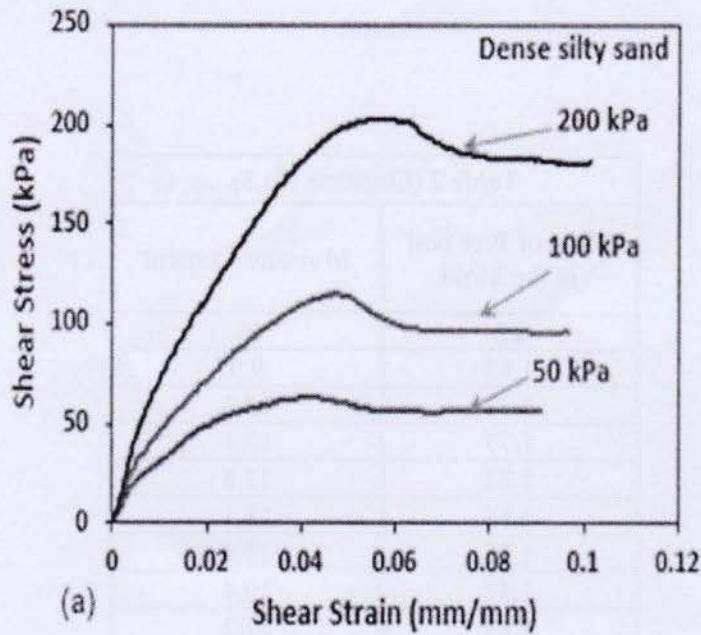

Fig. 3 (Question No. 3)
3. The shear force versus displacement curves obtained from direct shear tests are given in Fig. 3. The dimension of the shear box is 60 mm x 60 mm. 15